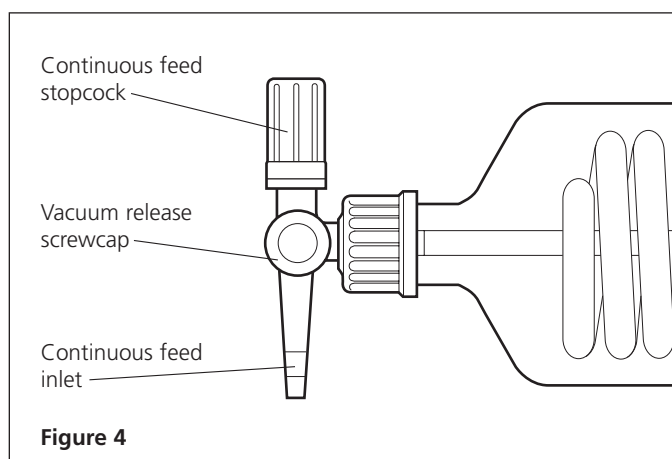

Figure 4
11. Hold the receiving flask (5) in position and secure with the spherical joint clip (7).
12. Place the rotating flask (4) onto the end of the vapour tube and secure using the conical joint clip (2).
13. Remove the grey plastic screwcap from the narrow end of the condenser and assemble it to the feed/vacuum release adapter (3) (see fig. 4).
14. Pass the PTFE tube through the condenser and vapour tube so that the end is inside the rotating flask. Note that for the RE301 and RE302, the PTFE tube may have to be reduced in length to fit into the Florentine flask (see fig. 4).
- a) Remove the rotating flask (4) from the vapour tube (8) and fill with the liquid to be evaporated. Ensure that the flask is never more than half full. Secure the flask onto the conical joint using the clip (2)
- b) Examine the feed/release adapter (3) and ensure that both the stopcock and vacuum release screwcap are closed (see fig. 4).
- a) Attach a length of flexible tubing to the continuous feed inlet of the feed/release adapter (see fig.4).